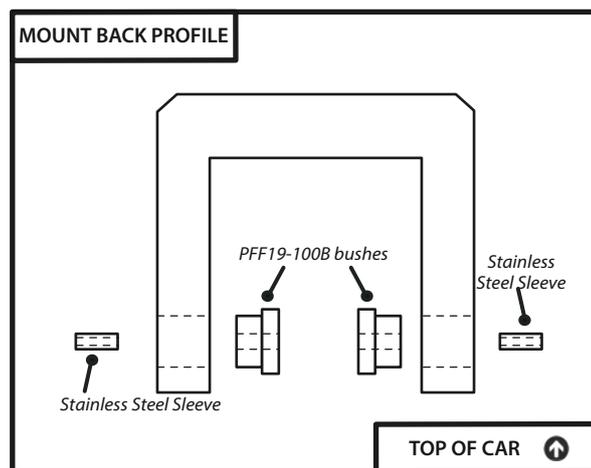

Figure 2- Assembly of 2 back PFF19-100B bushes
4. Insert the PFF19-100A bushes into the vacant holes at the front of the mount. Two bushes are fitted into each vacant hole, with bushes sitting in the top and bottom of the hole (Note: Reference Figure 2 for the positioning of the bushes, where the top hats sit flush on the outside of the hole.)